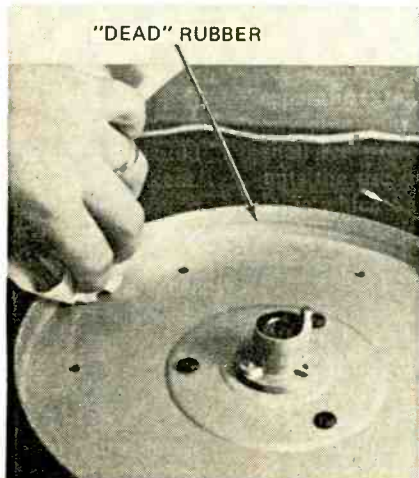

FIG. 9—WIPE THE INSIDE RIM of the platter clean of rubber residue. Use a towel saturated with solvent.
13. Using a saturated towel (Rubber-Magic), wipe the inside rim of the platter clean of rubber residue (Fig. 9).